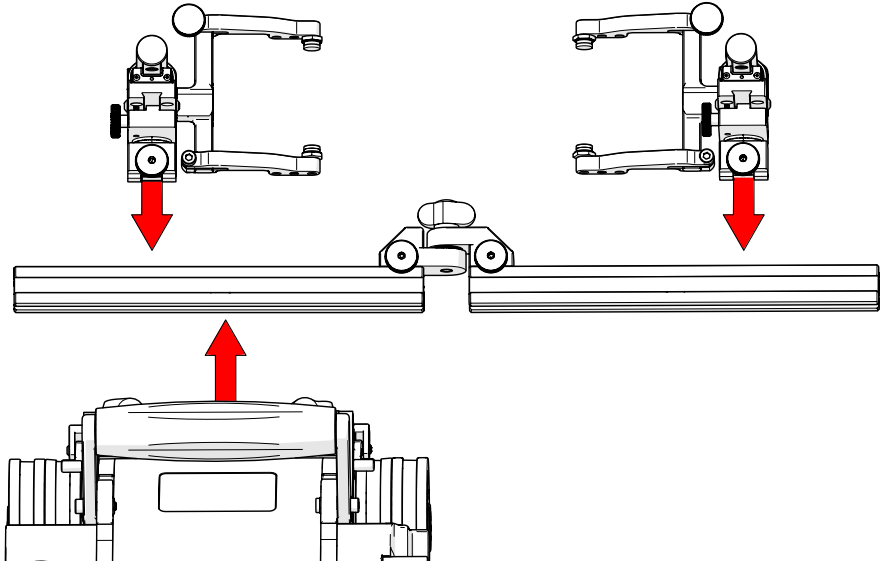

Fig. 155 - Configure assembly and mount to SKOOT HT
1. Disassemble the pivoting probe holder frame to achieve the setup shown (Fig. 155). Ensure proper placement of the frame bar with attached mounting point in relation to the SKOOT HT.